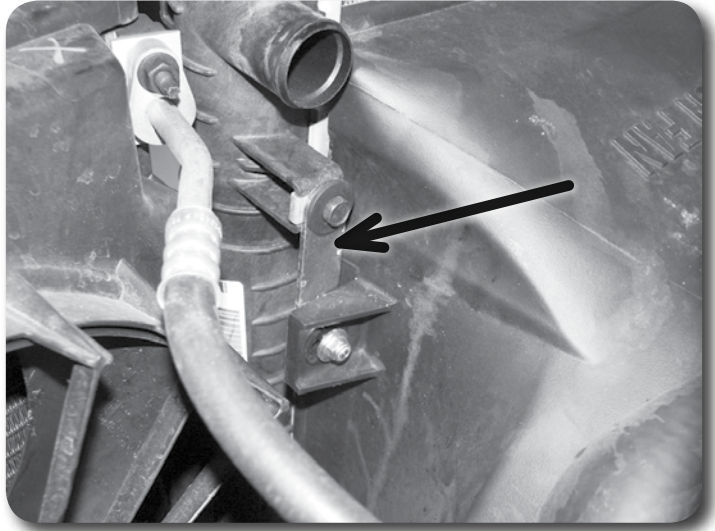

Figure 20
46. Attach the fan shroud to the new drop bracket studs on the radiator Figure 20 and fasten with  $\frac{1}{4}$ " nuts and  $\frac{1}{4}$ " USS washers. Torque the  $\frac{1}{4}$ " nuts as well as the factory shroud hardware to 15 ft-lbs.